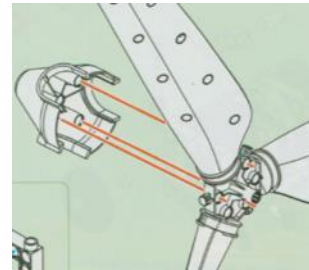

Figure 3: Rotor Assembly
5. Attach assembled blades into the nose cone as shown in figure 3.